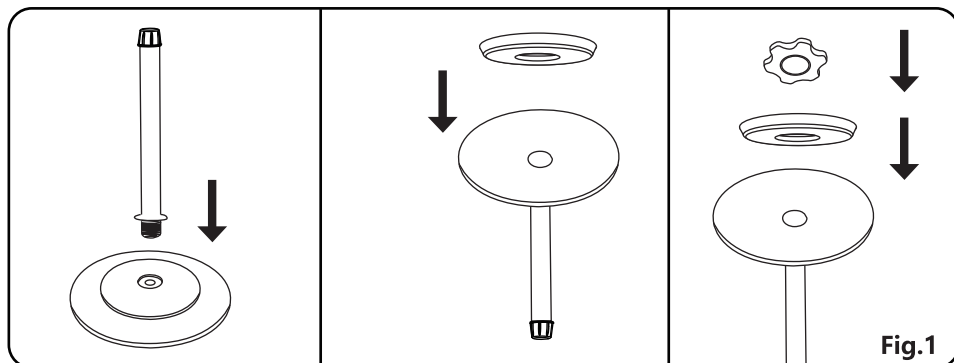

Fig.1
2. Prenda a base preta à cobertura base.(Fig. 1)